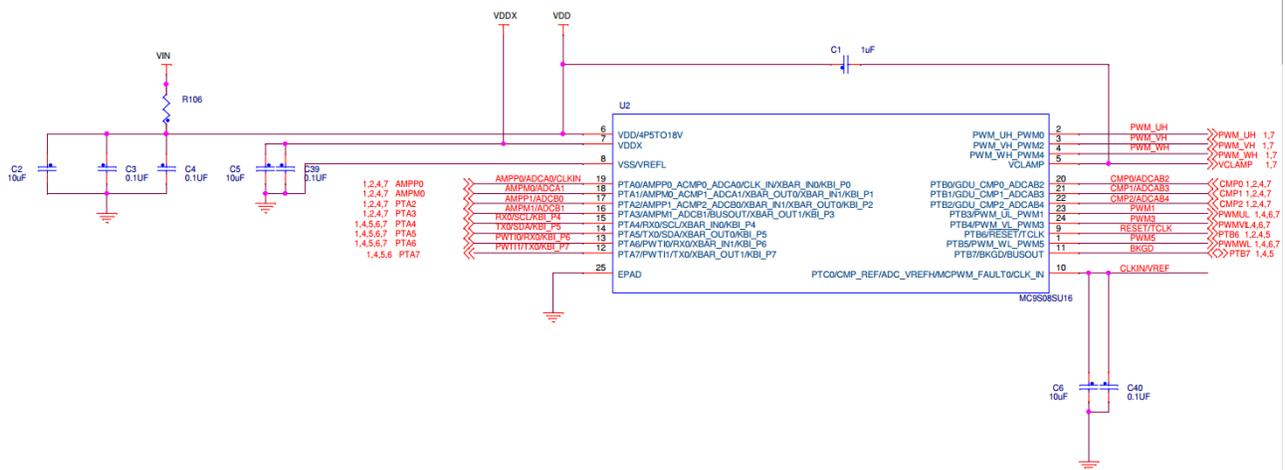

Figure 12. MCU peripheral circuit
*Figure 12* shows the CPU peripheral circuit. C1 is important and supply Vclamp to drive high bridge P-Mosfet. C6 and C40 need to be added if customers want to use 4.2 V as ADC reference voltage.